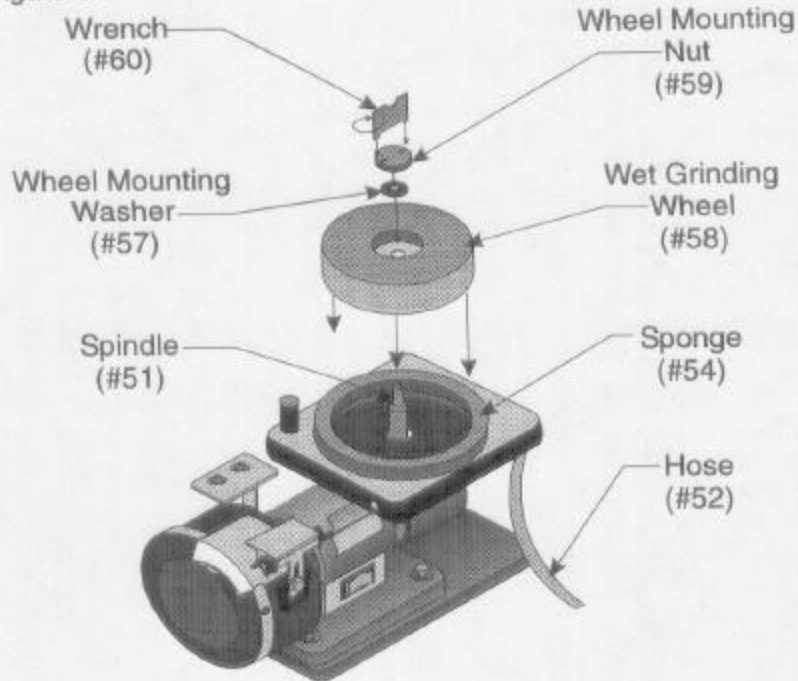

Figure 3 -- Removing Grinding Wheel
Step 1: Using the included WRENCH (#60), remove the WHEEL MOUNTING NUT (#59) by turning it in a clockwise direction while holding the WET GRINDING WHEEL (#58) in place as shown in Figure 3.